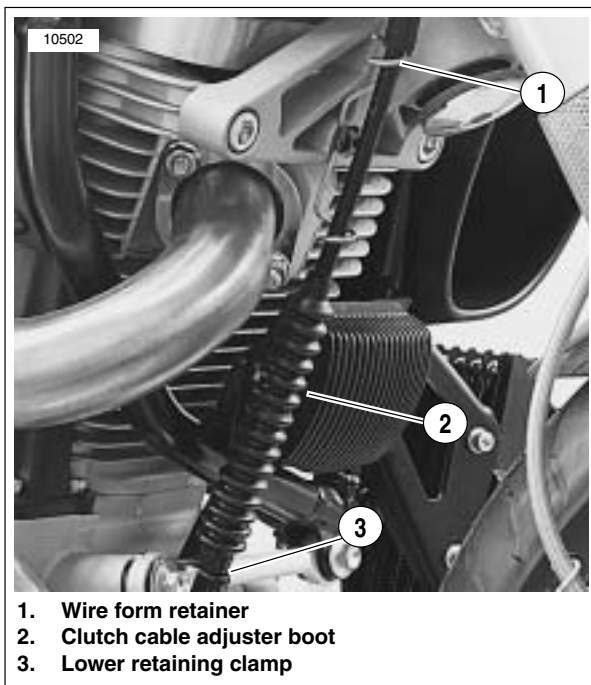
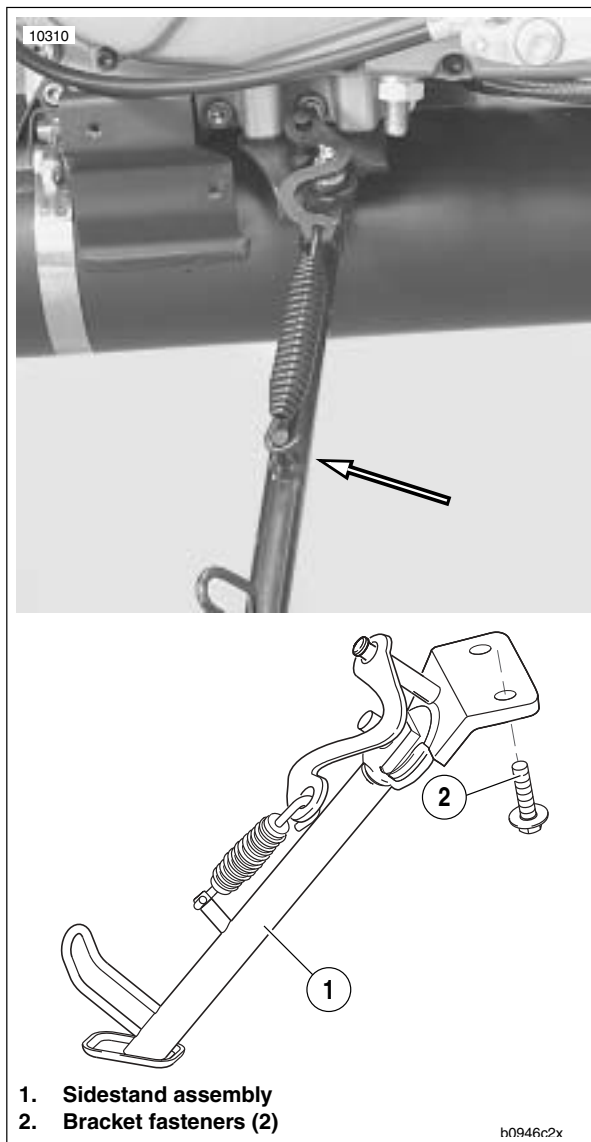

Figure 3-20. Clutch Cable Retaining Clamps and Adjuster Boot
Figure 3-21. Sidestand Assembly (Extended)
29. See Figure 3-20. Disconnect clutch cable.
- b. Slide clutch cable adjuster boot (2) up to access clutch adjuster.
30. See Figure 3-21. Remove two fasteners (5) and remove sidestand assembly.
32. See Figure 3-21. Remove sidestand assembly.